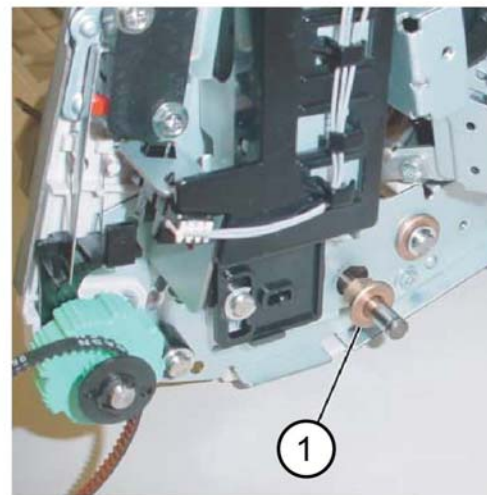

Figure 2 Front bearing removal
4. Remove the front bearing (1), Figure 2: